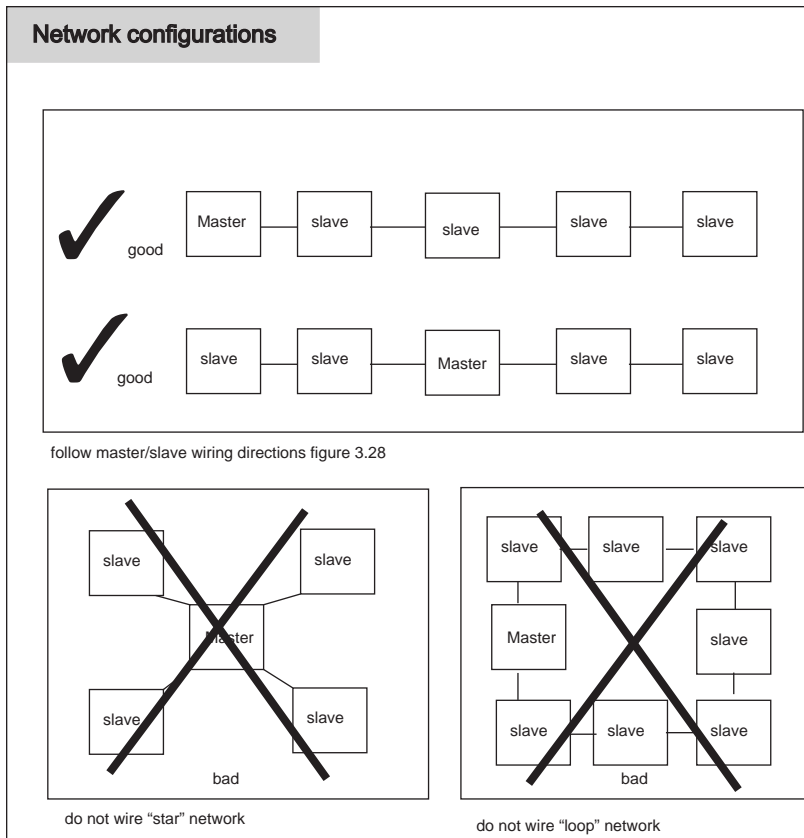

Figure 3.30
- Remove network terminal strip from any networked slave that is not powered. Network rewiring is required if a stub (\*see note below) is created when a slave is taken off the network. See valid network configuration - see figure 3.30.
5400 networks must be configured point to point (instrument to instrument). Network wiring cannot contain loops, stars, or stubs - figure 3.30.